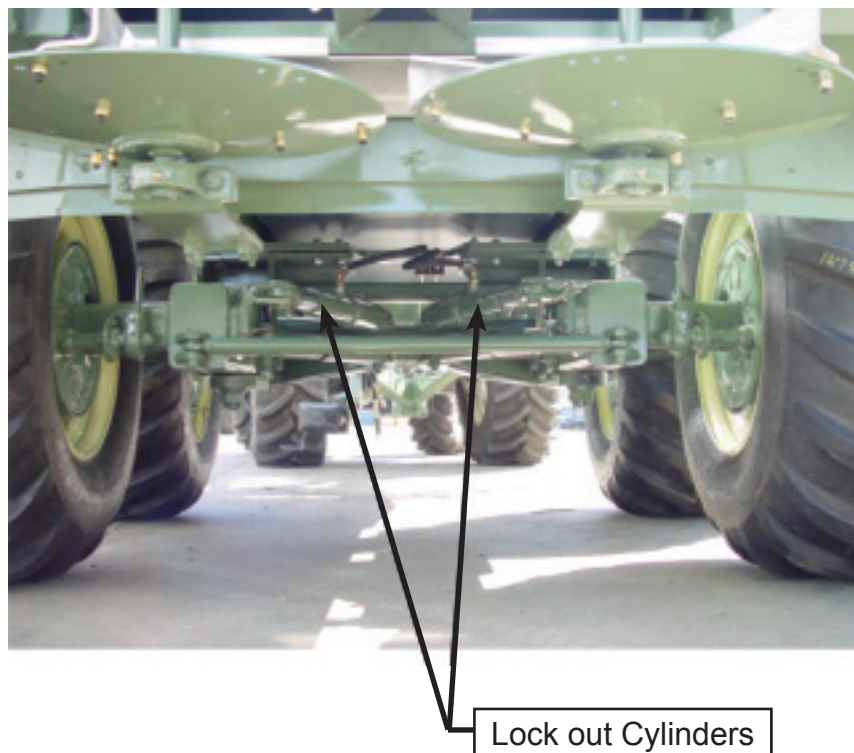

Fig 6
3. The wheels will pull into centre of the machine when the swing arm touches the stop plate the tractor relief valve will stop the oil flow locking the rear axles in position. (See Fig 6)